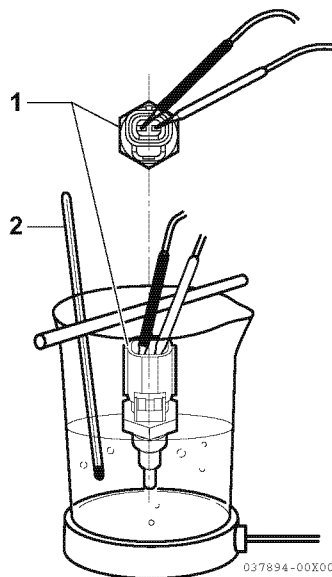

Fig.40-19
- 1 - Check for proper operation of the coolant temperature sensor. As shown in the following figure, connect an electric resistor to the coupler of the coolant temperature sensor (1, Fig.40-19).
- 2 - Dip the coolant temperature sensor and an accurate thermometer (2, Fig.40-19) into the engine coolant.